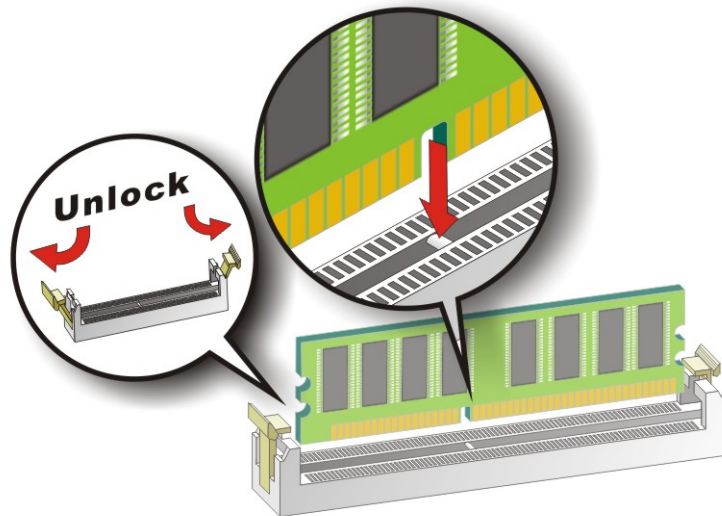

Figure 4-10: Installing a DIMM
To install a DIMM into a DIMM socket, please follow the steps below and refer to **Figure 4-10**.
- Step 1:** Open the DIMM socket handles. The DIMM socket has two handles that secure the DIMM into the socket. Before the DIMM can be inserted into the socket, the handles must be opened. See **Figure 4-10**.
- Step 2:** Align the DIMM with the socket. The DIMM must be oriented in such a way that the notch in the middle of the DIMM must be aligned with the plastic bridge in the socket. See **Figure 4-10**.
- Step 3:** Insert the DIMM. Once properly aligned, the DIMM can be inserted into the socket. As the DIMM is inserted, the white handles on the side of the socket will close automatically and secure the DIMM to the socket. See **Figure 4-10**.